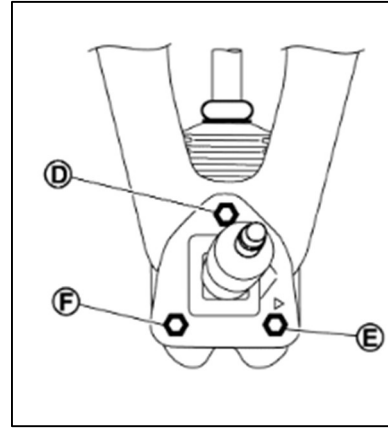

Figure 26
- Temporarily tighten the Front bolt (D) shown in Figure 26